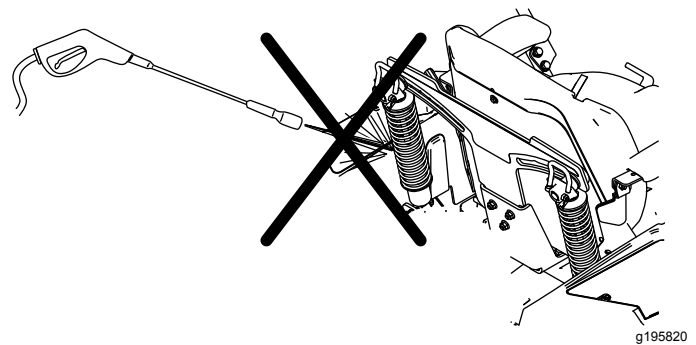

Figure 106
**Note:** Do not clean the shock assemblies with pressurized water (Figure 106).